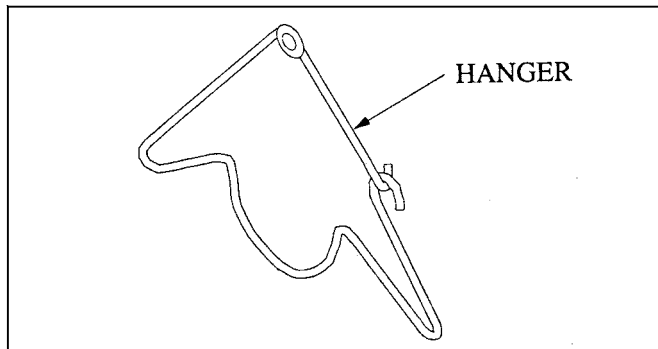

Figure 2-4
1. Each heater comes equipped with the necessary hangers (Figure 2-4) for hanging.